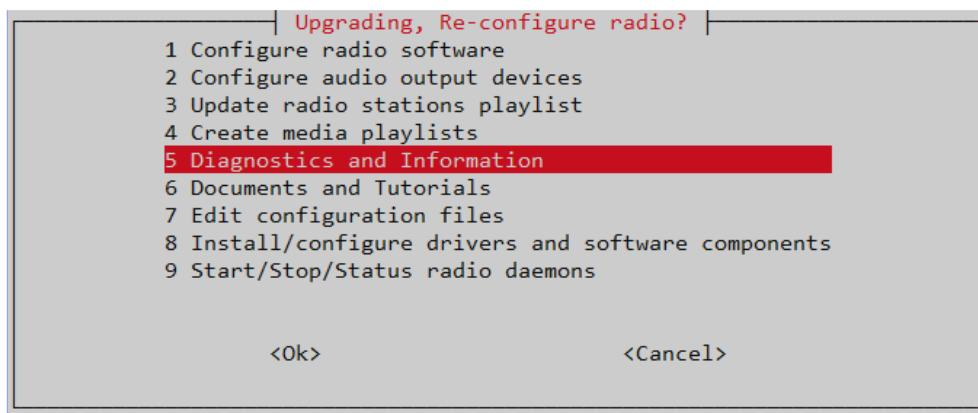

Figure 240 Diagnostics and Information menu
- Select option **1 Run the radio in diagnostic mode (nodaemon)** shown in *Figure 240 Diagnostics and Information menu* on page 196.
- Select option **2 Test rotary encoders** from the diagnostics menu. shown in *Figure 240 Diagnostics and Information menu* on page 196.
- Select option **2 Test rotary encoders** from the diagnostics menu shown in *Figure 240 Diagnostics and Information menu* on page 196.
- Select option **4 Test events layer** from the diagnostics menu shown in *Figure 240 Diagnostics and Information menu* on page 196. This displays the following output